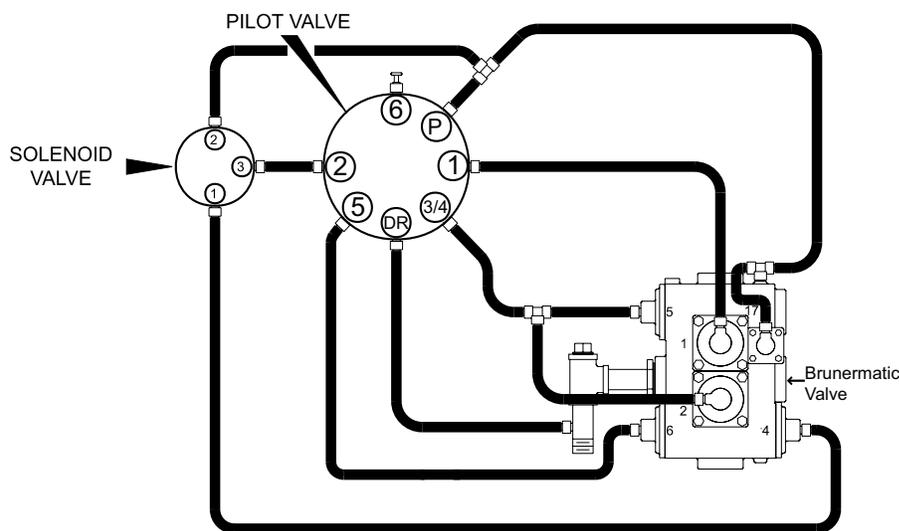

Figure 30. Alternating/progressive flow parallel system with plugged bypass.
- From solenoid valve port number 3 to port number 2 on the pilot valve body. The detailed tubing schematic is shown below (Figure 30).